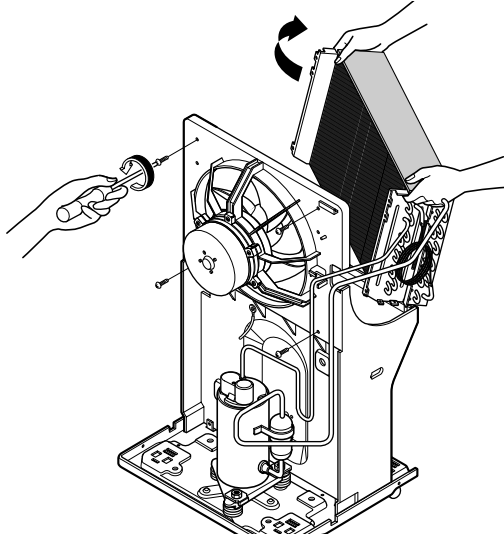

Figure 13
2. Widen H/E Assy 30 degree clockwise as like figure 13.